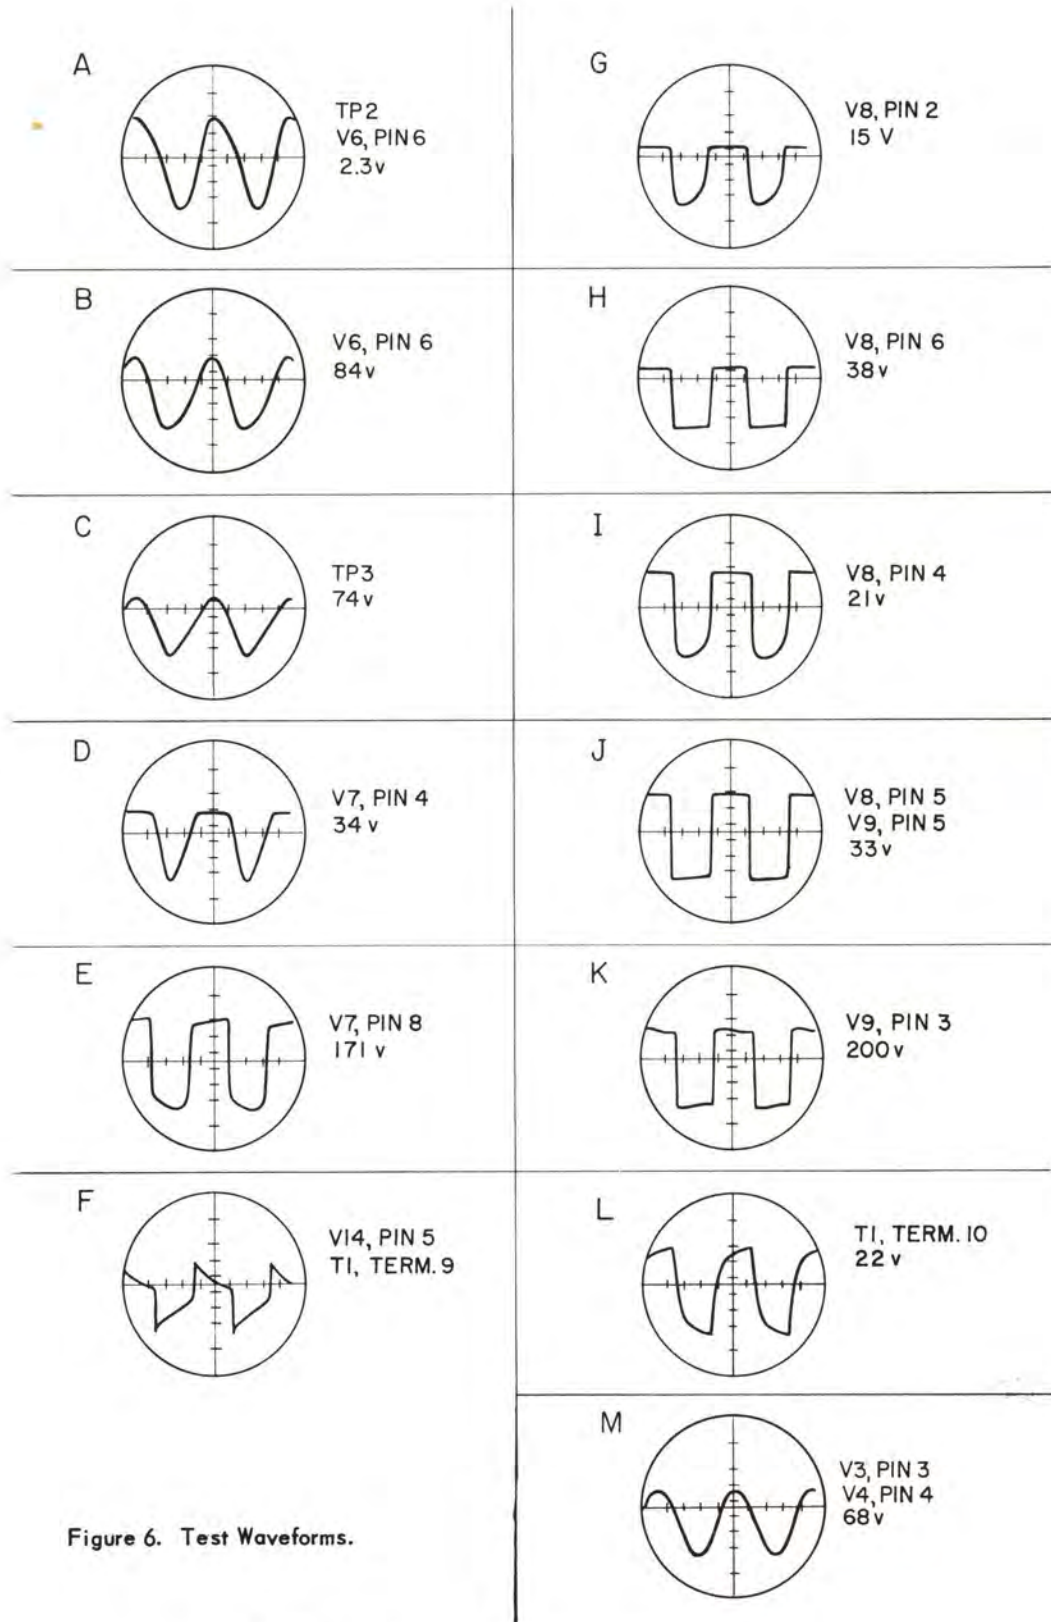

Figure 6. Test Waveforms.
5.6 TEST WAVEFORMS. As a further aid to trouble-shooting, typical waveforms found at various points in the monitor are shown in Figure 6. These drawings were made from oscillograms taken with a 1-volt rf input at 950 kc. A 949-kc crystal was used, and the crystal output level was at the red line on the panel meter. All voltages given are peak-to-peak values.